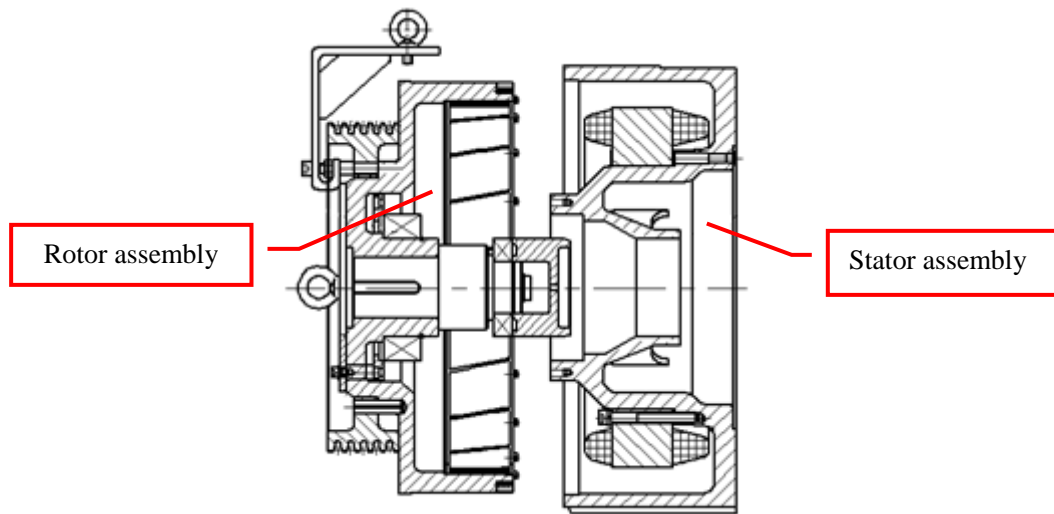

Figure 67:
5. Lift the rotor assembly parallel to the stator assembly. Align the guide sleeve with the bearing hole. The rotor assembly is pushed into the stator assembly. Remove the special screw ring and self-aligning bearing positioning plate. See Figure 67.